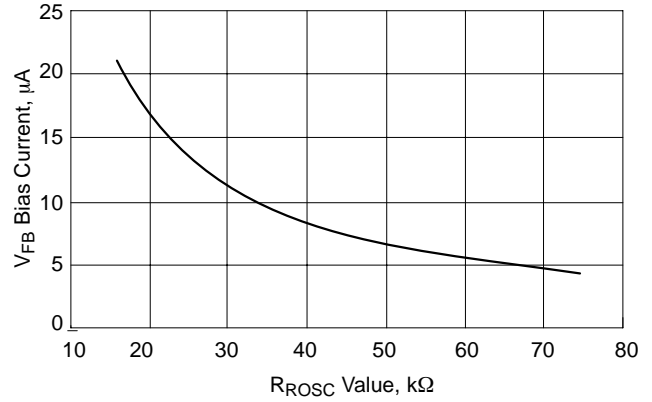

Figure 4. V_{FB} Bias Current vs. R_{ROSC} Value
- The V_{FB} Bias Current changes with the value of R_{ROSC} per Figure 4.
To set the no-load positioning, a resistor (R_9) is placed between the output voltage and V_{FB} pin. The V_{FB} bias current will develop a voltage across the resistor to decrease the output voltage. The V_{FB} bias current is dependent on the value of R_{ROSC} , as shown in Figure 4.